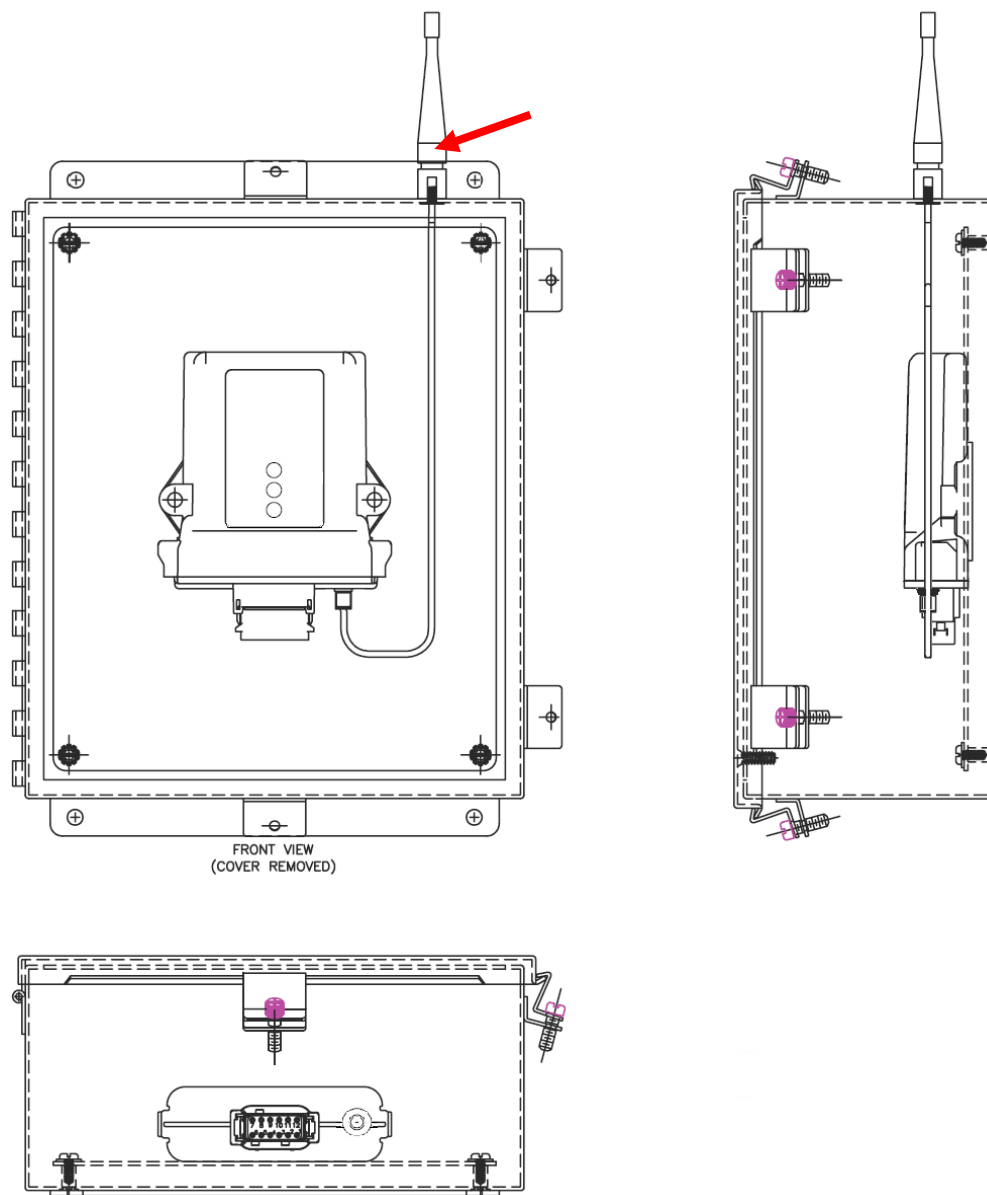

Figure 01: Remote Antenna (marked in red)
1. Determine the location of your antenna from Figures 01 through 03 (the antenna is designated with the red arrow). **Be sure to mount the antenna in direct line-of-sight of the operator and free from all obstructions.**
5. If obstructions cannot be cleared, or the unit must be mounted inside a metal enclosure, the remote antenna should be used (see Figure 01).